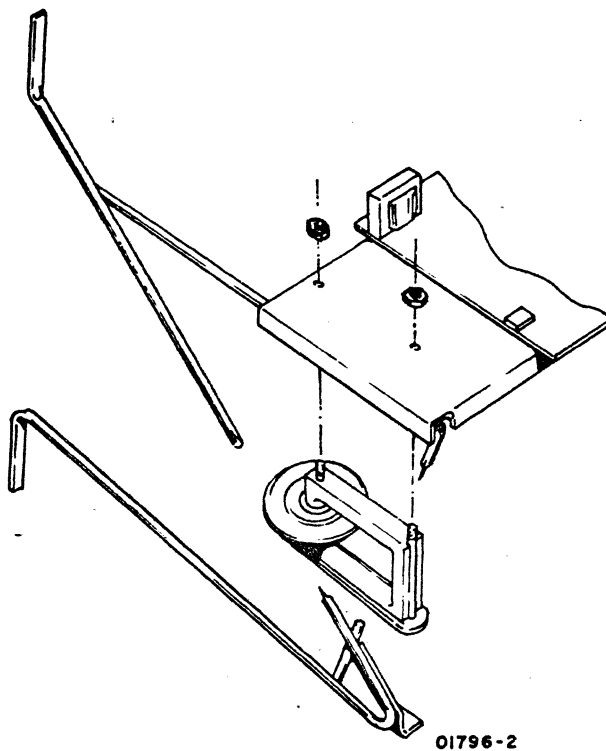

Figure CRT2. High-Voltage Transformer Installation
- 8) Connect transformer to chassis as shown in figure CRT2.